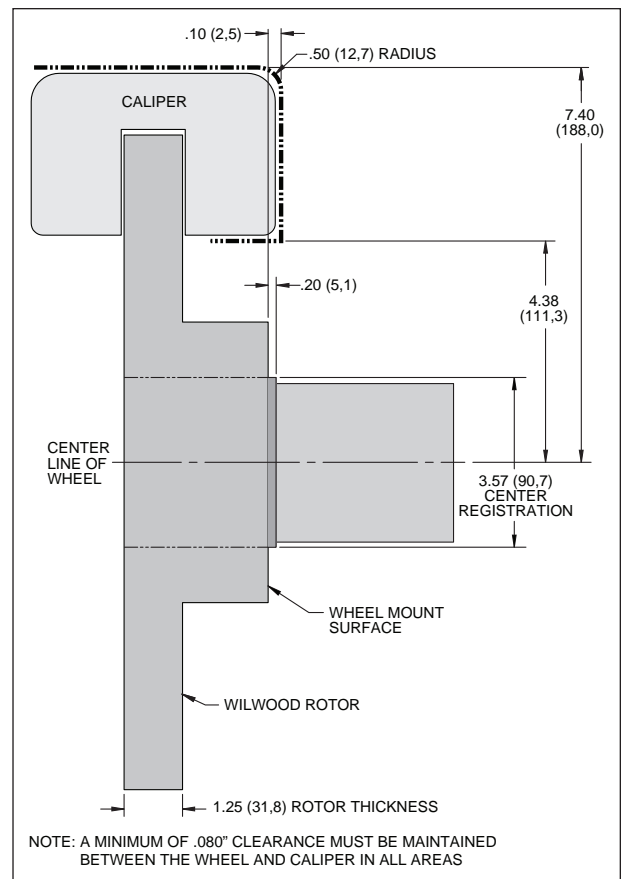

Figure 2. Wheel Clearance Diagram
- Review the Wheel Clearance Diagram (Figure 2, page 3) to verify that there is adequate clearance with the wheels you will be using with the installation.
- Verify your wheel clearance using Figure 2.
- **CAUTION:** Wheel fitment to OEM hub interference must be checked. There is a 3.57" diameter step on the hub face that was used to register the old brake drum (Figure 2). Be sure your wheel fits flush against the hub face. If the step interferes, you will need to use a wheel spacer (customer supplied) to clear the step.
- Temporarily install the wheel and torque the lug nuts to the manufacturer's specification. Ensure that the wheel rotates freely without any interference. **CAUTION:** *Wheel fitment to OEM hub interference must be checked.* There is a 3.57" diameter step on the hub face that was used to register the old brake drum (Figure 2). Be sure your wheel fits flush against the hub face. If the step interferes, you will need to use a wheel spacer (customer supplied) to clear the step.
- **NOTE:** *OEM rubber brake hoses generally cannot be adapted to Wilwood calipers. The caliper inlet fitting is a 1/8-27 NPT. Install Wilwood's stainless steel braided flexline hose kit (21), P/N 220-13319 included with this kit. **Carefully route hoses to prevent contact with moving suspension, brake or wheel components.** NOTE: *Wilwood hose kits are designed for use in many different vehicle applications and it is the installer's responsibility to properly route and ensure adequate clearance and retention for brake hose components.**